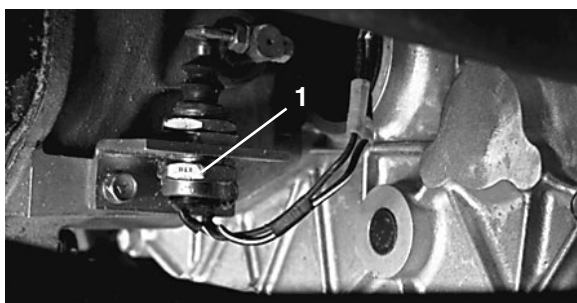

Figure 55
7. Recheck clutch safety switch adjustment (Fig. 55). Engine must not crank unless clutch pedal is $2.9\text{ cm} \pm 6\text{ mm}$ ($1.25'' \pm .25''$) from floor. If an adjustment is required, loosen switch jam nuts and adjust up or down.